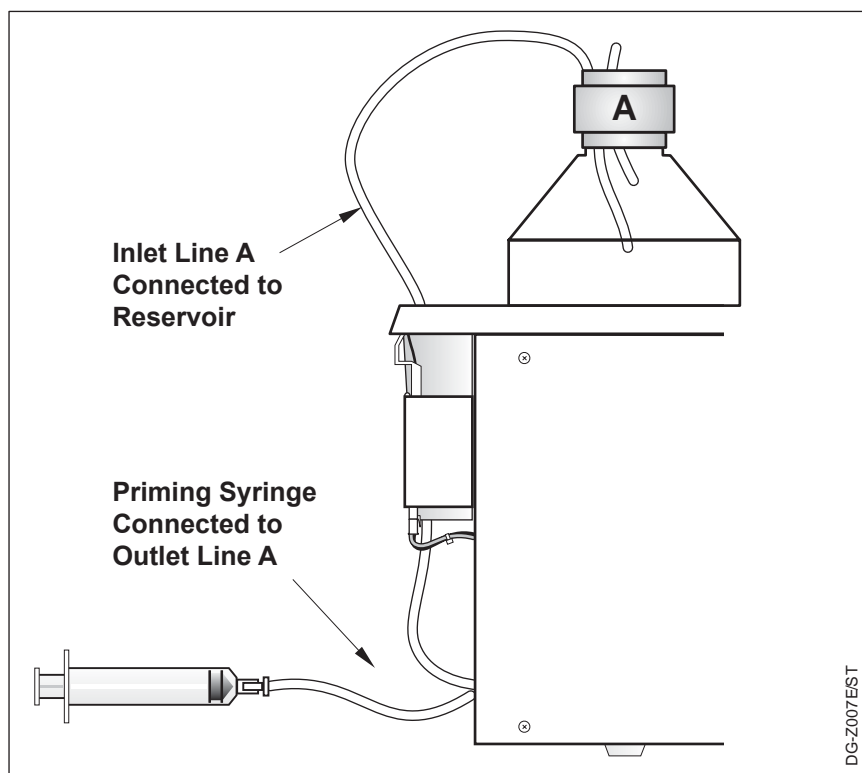

Figure 2.9 Syringe attached to chamber's outlet line
1. Screw the supplied luer fitting into the outlet line and finger-tighten. Attach the syringe to the luer fitting, making a leak-free connection (Fig. 2.9).